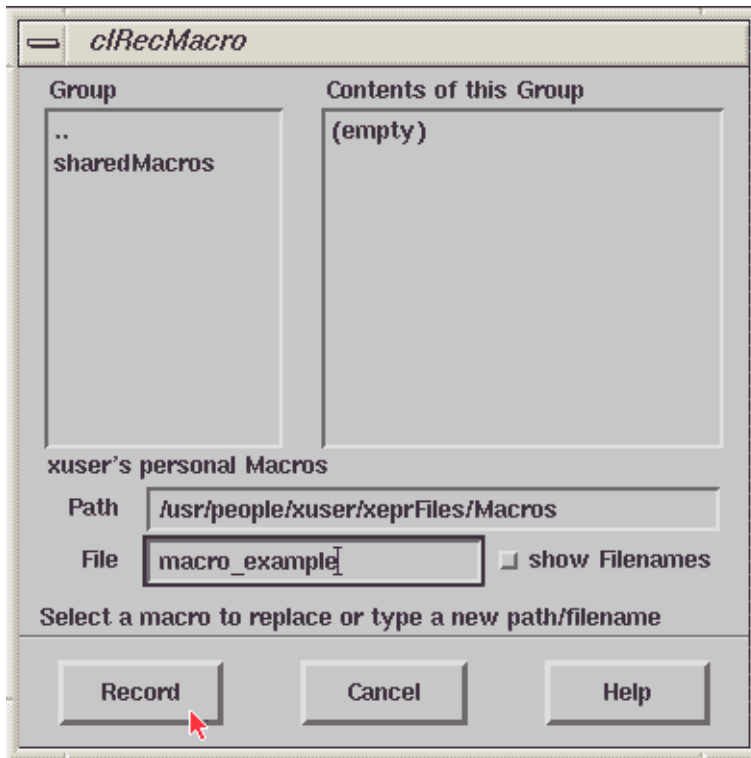

Figure 8-3 Setting a macro name and its path.
5. **Record the macro.** Click the Record button at the left bottom corner to start recording the macro. (See Figure 8-3.)